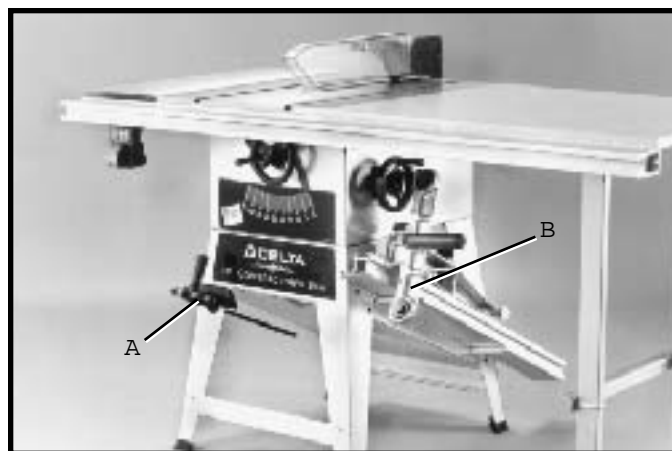

Fig. 90
- 1 When not in use, the miter gage (A) Fig. 90, can be stored through the hole located at the front side of the stand as shown.
- 2 The rip fence (B) Fig. 90, can be conveniently stored out-of-the-way on the stamped ledges on the right side of the saw stand.